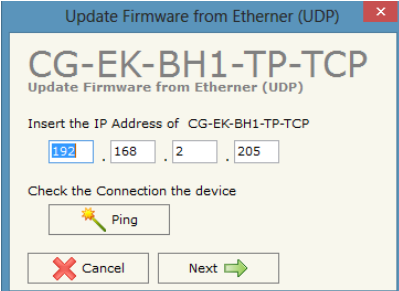

Figure 12 - Update configuration form
- Write the IP address **192.168.2.205** inside the Update Configuration form (see Figure 12 – Update configuration form)
- Provide the device IP address (see Figure 12 – Update configuration form). Make sure that the PC's network parameters are consistent with the IP address assigned to the device. Otherwise, change the PC's network settings
- Press *Ping* button; if you correctly applied the procedure, the text "*Device found!*" will appear (see Figure 12 – Update configuration form)
- Press *Next* button (see Figure 12 – Update configuration form)
In case of manual firmware update, replace “Sim67814.sim” file in the system folder “C:\Program Files (x86)\Ekinex\Compositor_CG-EK-BH1-TP-TCP\Master”. After replacing, open *Update configurazione* form (see Figure 12 – Update configuration form) in the application program and start the proper sequence.